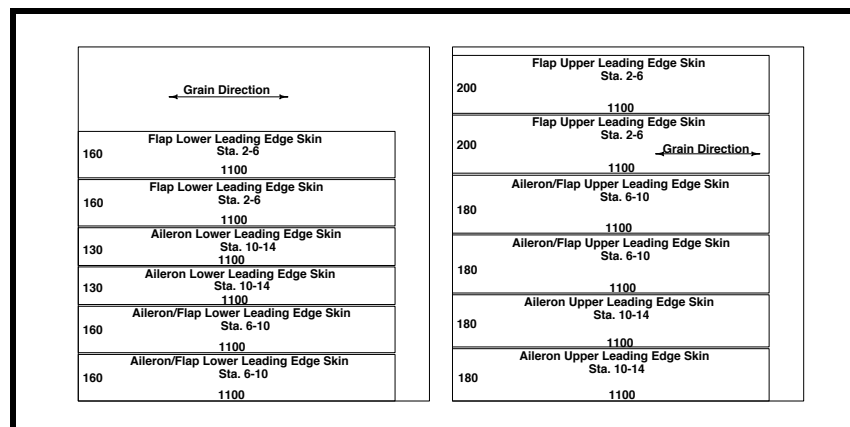

Figure 2
- ❑ Use two 48"x48" or larger sheets of 2mm birch plywood and cut in accordance with Figure 2. These dimensions allow about 25mm of extra material. You may want to increase the widths of the upper leading edge skins by 20mm (to 220 and 200) for extra material required by the 20x20-glued-to-an-overhang method of bending the plywood.